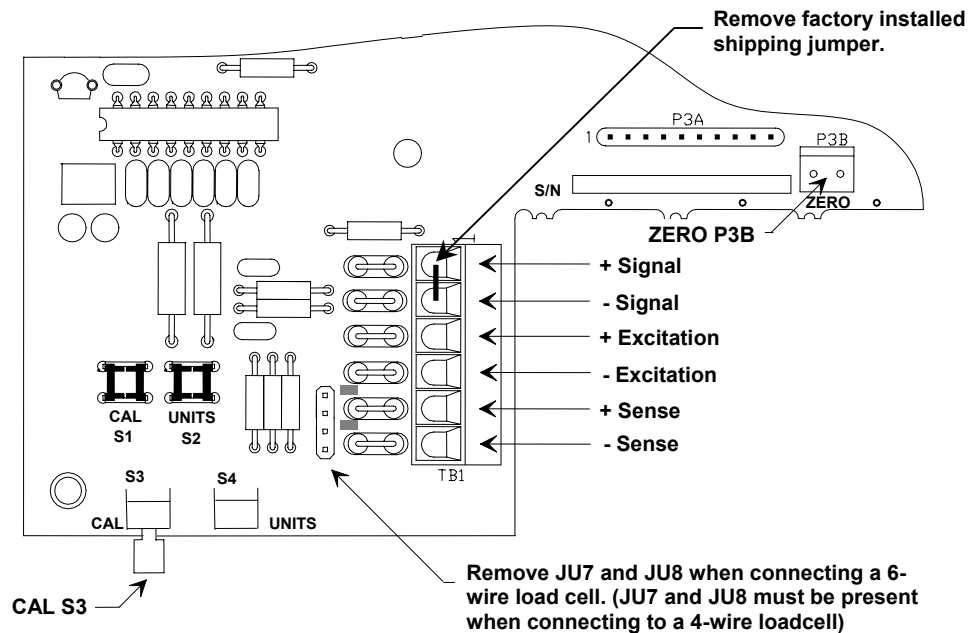

Fig. 4: Load Cell connections
Load cell connections are made through a terminal block located at the bottom center of the main PC. Board. The power cord connects to a connector adjacent to the transformer. These connections are accessible by removing the rear cover screws and laying the rear cover and main board on the work surface. Locate the ferrite core kit and read "load cell cable grounding and ferrite assembly" instruction sheet. Thread loadcell wires through the ferrite core as shown in Fig. 9. Connect load cell per Fig. 4.
- 2) The **CAL switch S1** is a momentary push button located in the lower left corner of main PC. Board (see Fig. 4). On the 7000XL and 8000XL, the calibration switch can be accessed by removing the meter's back cover. For the 7000 remove the Cal access panel located on bottom of indicator.
Scale must be in Legal for Trade Switch mode ("oP" = "445" or "CR5"). Apply power to the Scale. Then momentarily press the **CAL switch** S1 located in the lower left corner of main PC. Board (see Fig. 4). The calibration switch can be accessed by removing the meter's back cover. **Note:** Parameter and Calibration audit counters will be hidden when set in this mode. **Warning:** do not press CAL switch while powering up scale, this will cause the scale to reset all parameter settings.